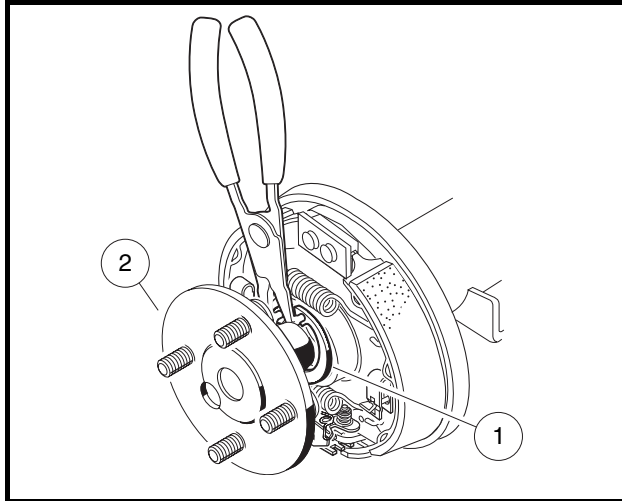
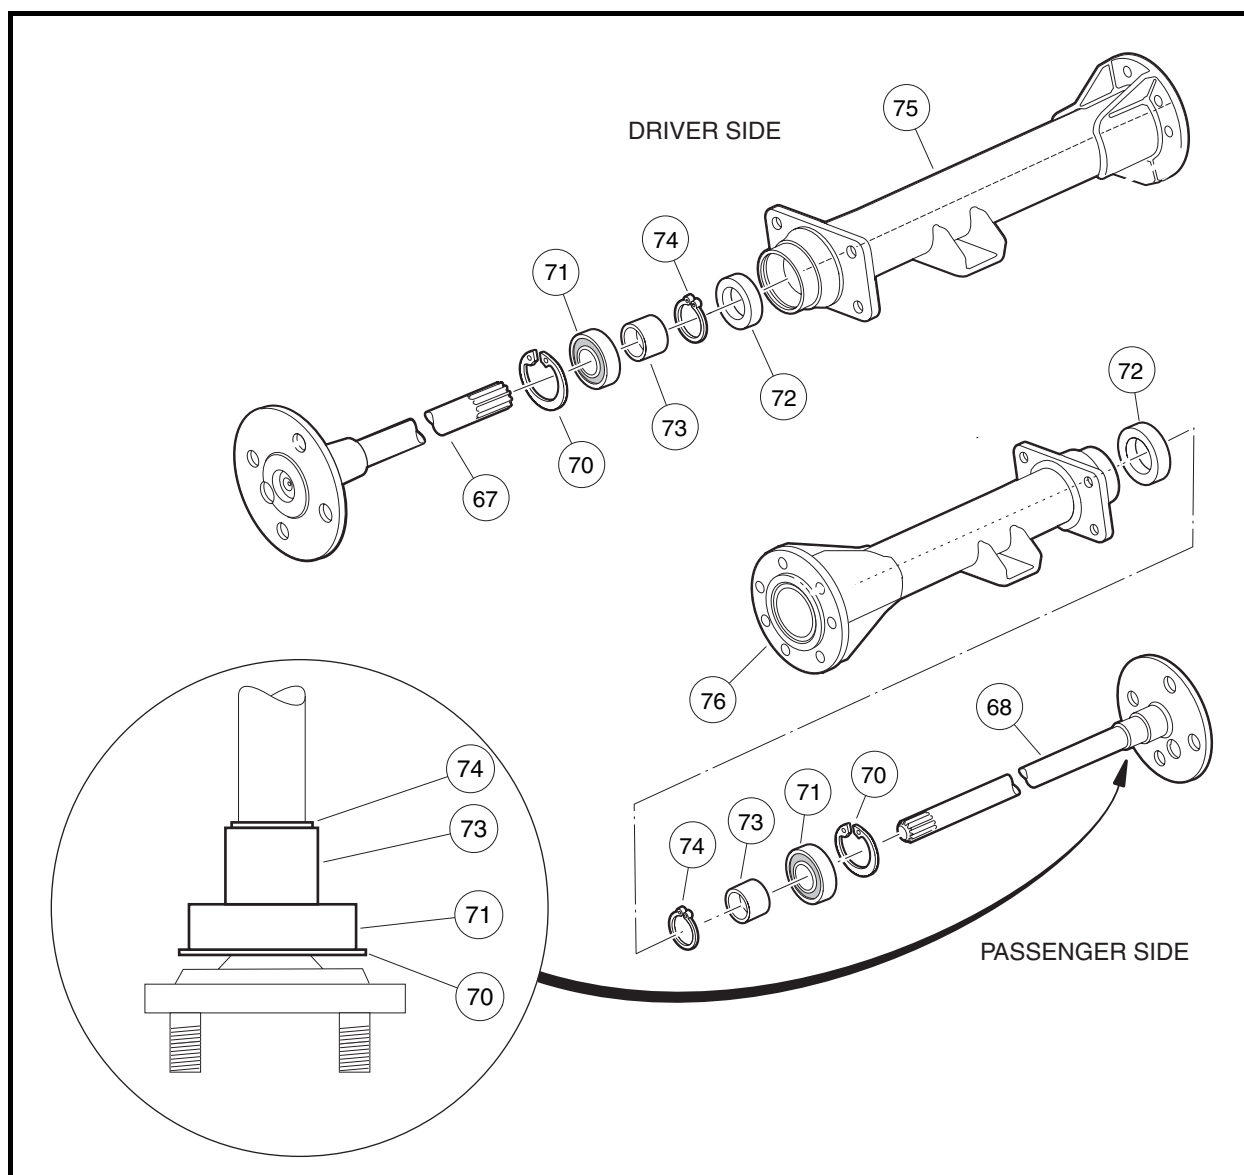
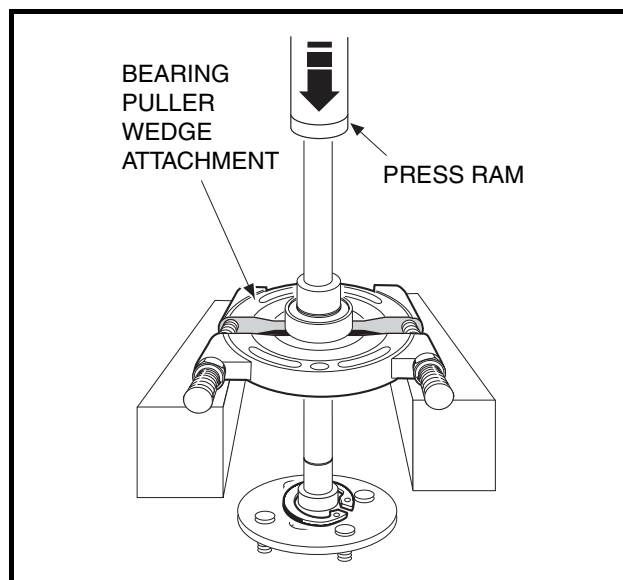
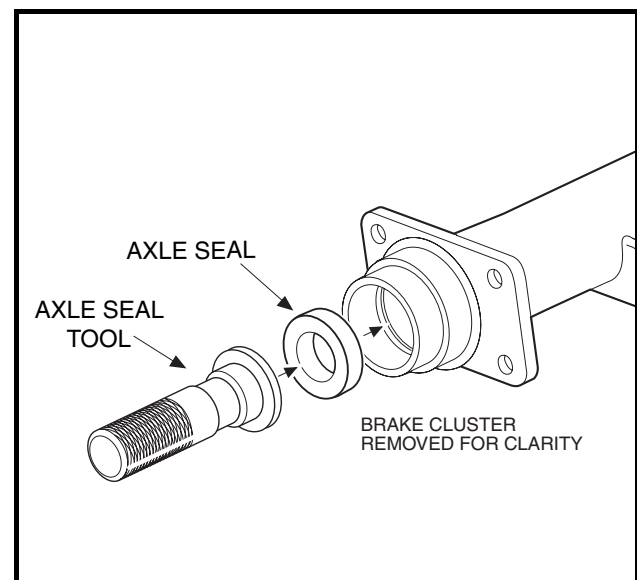

Figure 16-3 Retaining Ring
Figure 16-6 Differential Gear Case/Axle Tubes
Figure 16-7 Bearing and Collar
Figure 16-8 Axle Seal Tool
6. Use 90° internal snap ring pliers (0.090-in. tip) to remove internal retaining ring (1) from axle tube (**Figure 16-3, Page 16-3**).
7. Carefully pull the axle shaft (2) straight out of the axle tube (**Figure 16-3, Page 16-3**).
9. Inspect the axle shaft assembly to be sure the bearing (71) and collar (73) have not slipped and are still seated against the shoulder on the axle shaft (Figure 16-6, Page 16-4).
1. Use external retaining ring pliers (0.047-inch tip) to remove the retaining ring (74). Place a bearing puller wedge attachment (CCI P/N 1012812) on the axle shaft between the wheel mounting flange and the bearing (Figure 16-6, Page 16-4). See also Figure 16-7, Page 16-6. See following CAUTION.
2. Press the bearing (71) and collar (73) off together (Figure 16-6, Page 16-4). See also Figure 16-7, Page 16-6. See following NOTE.
Do not remove the large axle retaining ring (70) from the axle (Figure 16-6, Page 16-4). Since the inner diameter of the retaining ring (70) is smaller than the outer diameter of the bearing (71), the ring must be in place on the axle before a new bearing and collar are pressed on.
1. Ensure that the retaining ring (70) is loosely placed on the axle shaft. **See preceding NOTE.**
2. Install a new axle bearing (71) on axle (67 or 68). Push bearing onto axle until bearing is flush against axle shoulder (**Figure 16-6, Page 16-4**).
4. Place a new sealed bearing (71) on shaft (67 or 68) (**Figure 16-6, Page 16-4**).
5. Install collar (73) onto axle shaft. Place axle assembly on bearing puller wedge attachment and press collar onto axle.
7. Use external snap ring pliers (0.047-in. tip) to install collar retaining ring (74) (**Figure 16-6, Page 16-4**).
1. Clean bearing and seal seats in axle tube (75 or 76) (**Figure 16-6, Page 16-4**).
2. Place a new oil seal (72) in axle tube with seal lip facing inside of the axle tube (**Figure 16-6, Page 16-4**). Use an axle seal tool (CCI P/N 1012811) to press it in until it seats firmly in position (**Figure 16-8, Page 16-6**). **See following NOTE.**
4. Install the bearing retaining ring (70) in the axle tube (**Figure 16-6, Page 16-4**). See also **Figure 16-3, Page 16-3**.